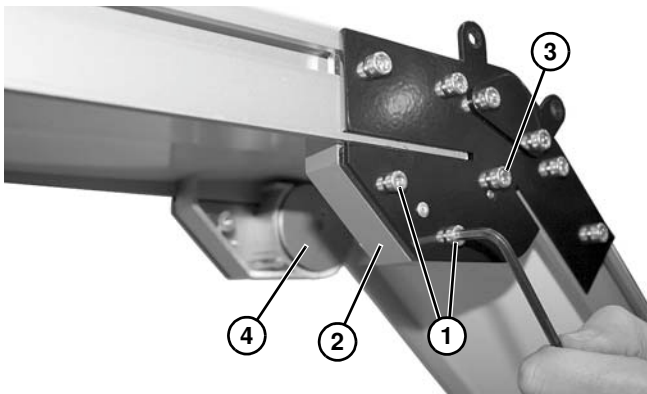

Figure 60
5. Remove screws (**Figure 60, item 1**) and remove guard (**Figure 60, item 2**) on both sides of knuckle.
6. Remove screw (**Figure 60, item 3**) and remove roller bearing assembly (**Figure 60, item 4**) on both sides of knuckle.